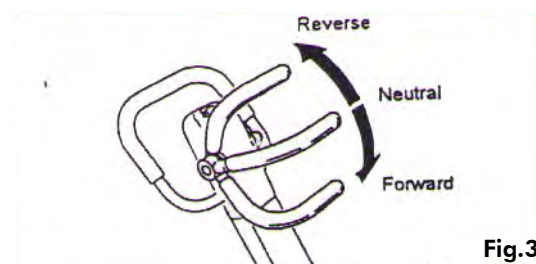

Fig.3
2. Operate travel lever to have compactor travel forward or reverse. Push the lever forward for forward travel, pull it back for reverse and place it in neutral for vibration in place. (Fig.3)